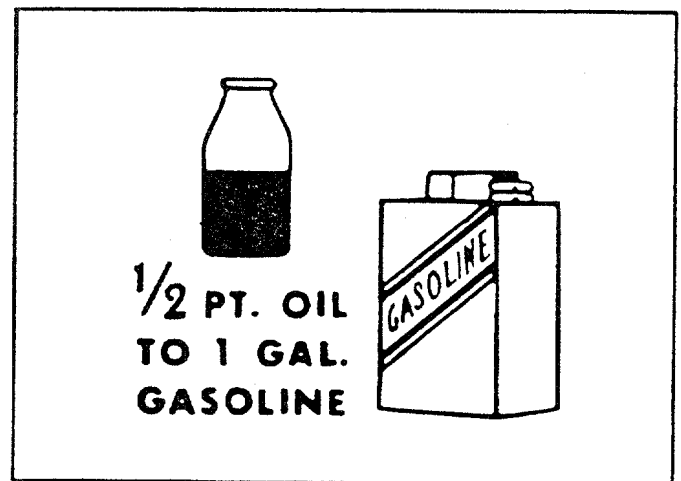

FIGURE 5.
1. This mower has a two cycle engine. It **MUST** use a gasoline-oil mixture of 20:1. See figure 5.
2. Mix in a clean container one half ($\frac{1}{2}$) pint of SAE 30 or 40 oil per one (1) gallon of regular gasoline. (NOT NO LEAD GASOLINE.) This mixture assures positive lubrication. Do not use 10W-30 type oils. See figure 5.